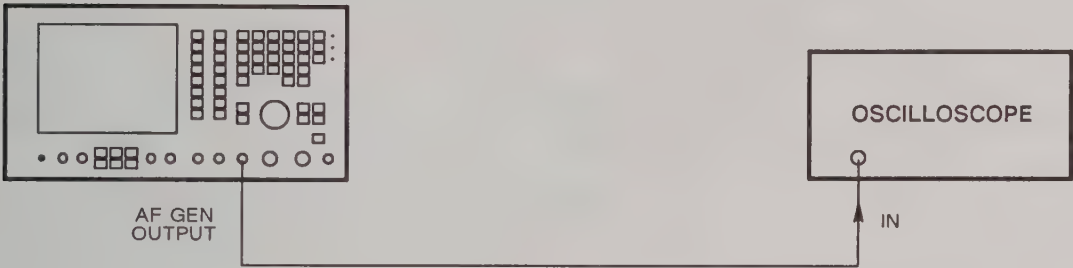

Fig. 6-17 Test equipment connections for AF generator waveform shapes
- (1) Connect the oscilloscope to the AF GEN OUTPUT socket. See Fig. 6-17.
- (2) Set the oscilloscope to DC, 0.5 V/DIV, 0.2 μs/DIV time-base.
- (3) On the 2955A, set the MODE to AUDIO TEST. Press the TONES and AUDIO SETUP keys. Ensure that GEN 1 is ON and GEN 2 is OFF. Set the GEN 1 FREQ to 1 kHz, LEVEL to 1 V and SHAPE to SQUARE.
- (4) On the oscilloscope, check for a square wave equal about ground of 4 divisions.
- (5) On the 2955A, set the SHAPE to TRIANGLE.
- (6) On the oscilloscope, check for a triangle waveform equal about ground of 4 divisions.
- (7) On the 2955A, set the SHAPE to SAW TOOTH.
- (8) On the oscilloscope, check for a saw-tooth waveform equal about ground of 4 divisions.